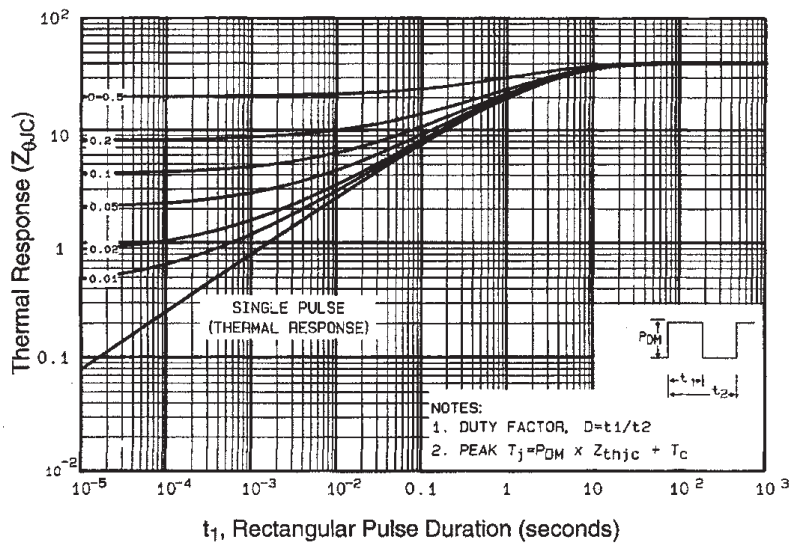

Fig 11. Maximum Effective Transient Thermal Impedance, Junction-to-Case
- ① Repetitive rating; pulse width limited by max. junction temperature. (See fig. 11)
- ② $V_{DD}=50V$, starting $T_J = 25^\circ\text{C}$, $L = 128\text{mH}$